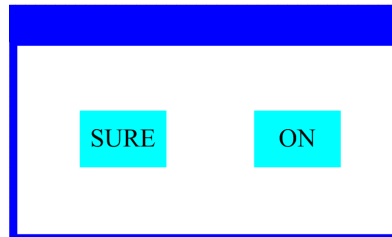

Figure 5 Dialog of confirm
- When the parameter is a key item, click corresponding item, a dialog shown in Figure 5 will be pop up ask for the confirm. Click 'sure' to confirm.